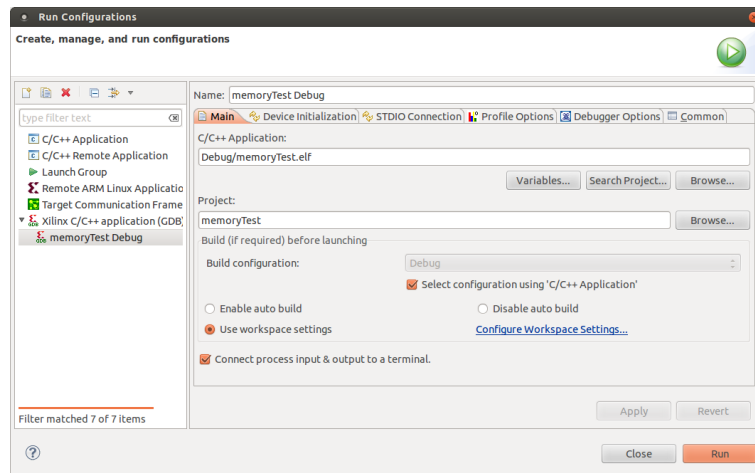

Figure 4.10.: GDB run configuration
- In Project Explorer tab right-click on *memoryTest* then select *Run As>Run Configurations...*. Double-click *Xilinx C/C++ application (GDB)* (on left) to create a new GDB run configuration, *memoryTest Debug* (Figure 4.10). Make sure that "Path to initialization TCL file" in the *Device Initialization Tab* points to the TCL file in the current active project. Then, click *Run*.